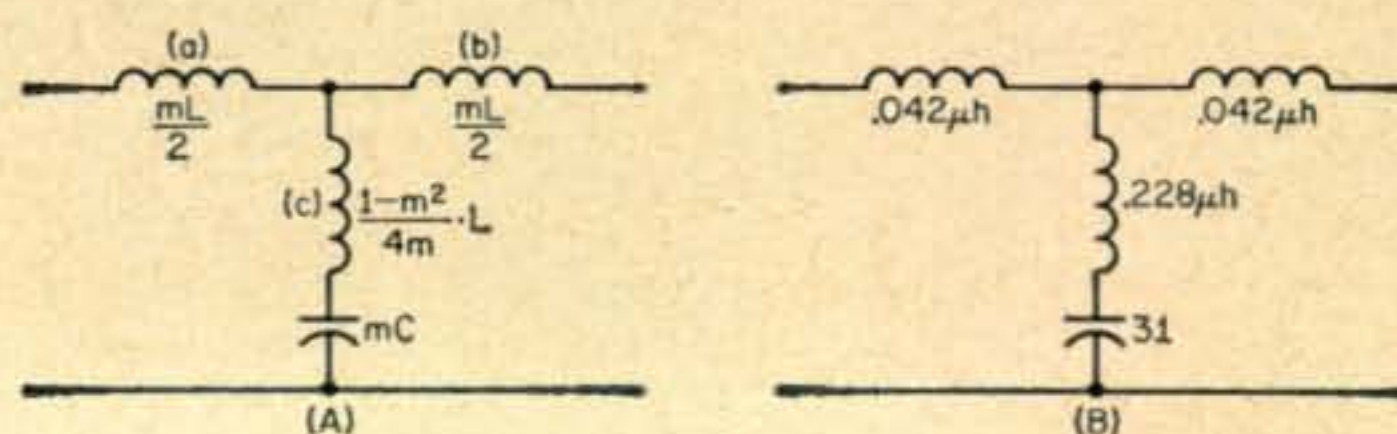

Fig. 4 (A)—Circuit and formulas for determining the component values for the M Derived filter section. (B) Computed values for the example chosen in the text.
To improve the performance of this filter we have to add a second section. This is an M derived T section illustrated in fig. 4(A). By using the L and C values developed from equations (6) and (7) and multiplying them by the constants shown in fig. 4(A), we can derive the required values for the new T section.
Only one new constant is contained in fig. 4(A); it is the unknown, m . It is sufficient, here, to present the formula for m and disregard its derivation.
By referring to fig. 4(A) and solving for the component values of the T section, we have:
These values are shown in the circuit of fig. 4(B)